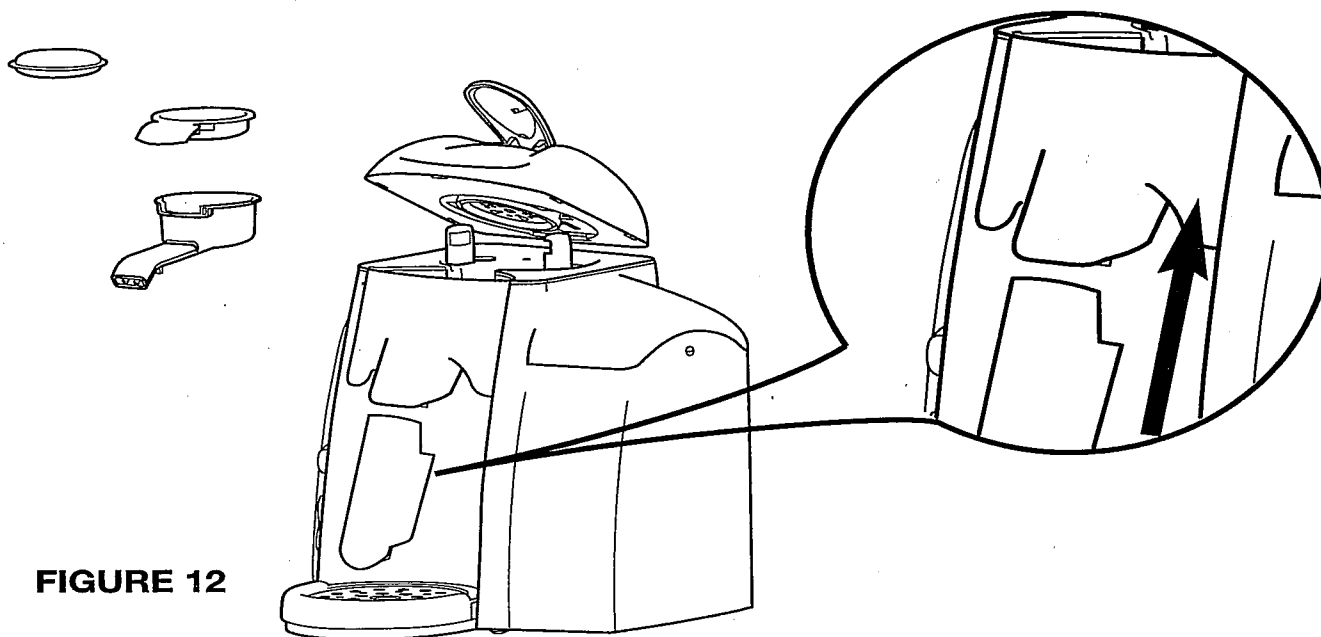

FIGURE 12
6. If you are using a shallow container, assemble the Drip Spout Extension to the Front Panel. See Figure 12.
4. Assemble the Drip Spout Extension to the Front Panel. See Figure 12.